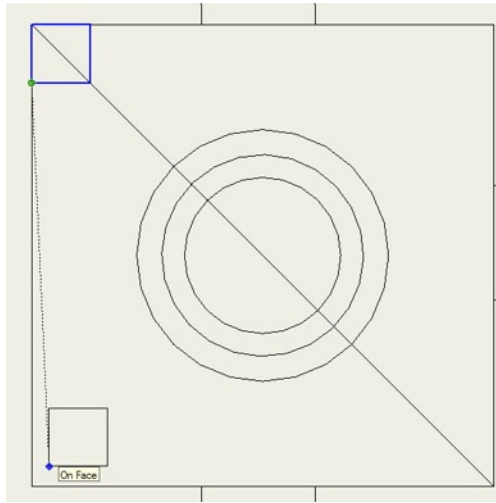

Figure 11. Copying the corner square to the other three corners of the large square
- At a corner of the rectangle draw a square as shown in Figure 11.
- Using the **Move** command select the square but press the CTRL key on the keyboard at the same time. You will see a 'plus' sign appear next to the Move symbol as you are moving your mouse. Holding the CTRL key down turns this command into '**Copy**' as we want to copy the square to the remaining three corners of the large rectangle as shown in Figure 11.